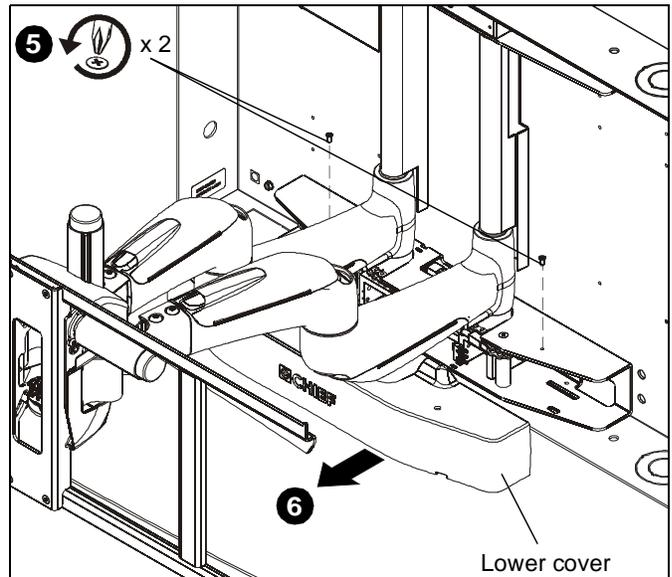

Figure 20
5. Remove and save two screws from lower cover. (See Figure 20)
6. Remove and save lower cover. (See Figure 20)